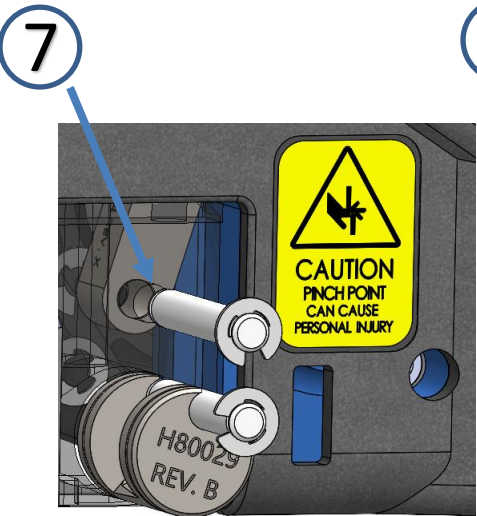

Figure 81
Apply a film of grease on the pins and knife and reassemble. Ensure that the upper pin goes through the trigger assembly linkage (7) (Fig. 81). Apply Blue Loctite to screws. Only pull-on gray cable jacket when connecting head sensor.